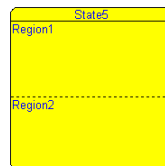
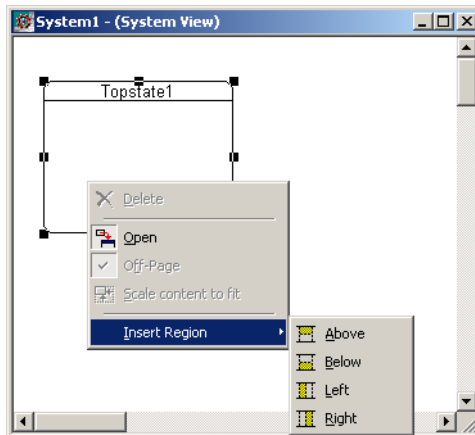

Figure 57: Composite state with two concurrent regions
Figure 62: System view pop-up menu (Designer)
- 5 To add a region to the state, right-click anywhere in the region to open the pop-up menu. Select **Insert Region**, and select **Above**, **Below**, etc., whichever is appropriate (see *Figure 62*, page 76). The region will be inserted. See example in *Figure 57*, page 73.
- 2 Go to the System view and click the topstate. Open the pop-up menu and choose Insert Region>.... See *Figure 62*, page 76.